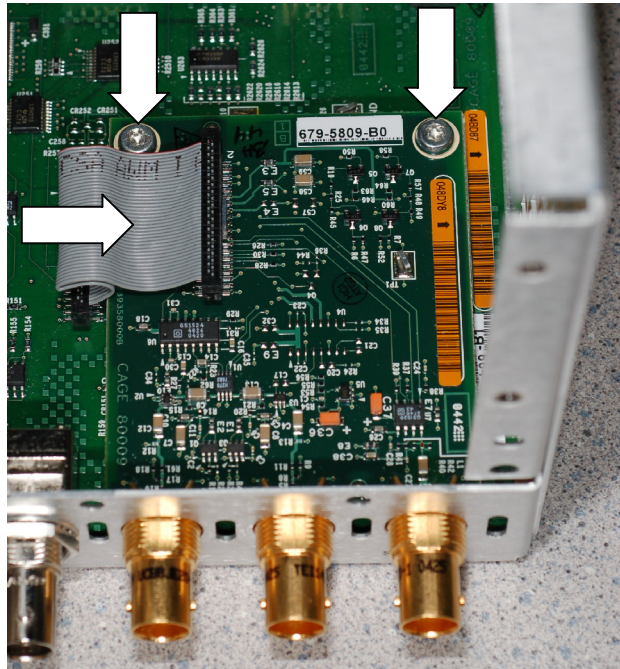

Figure 7: Removing the I/O Mezzanine module
- b. Remove the ribbon cable between J4 in the I/O Mezzanine module and J16 on the Main Interface board. See Figure 7.